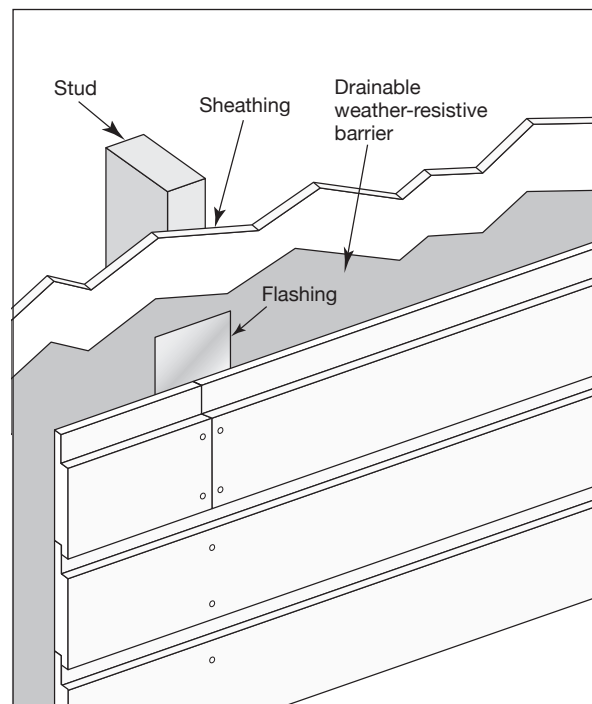

Fig. 21
- Flashing may be used behind butt joints for an additional layer of protection against water infiltration (**Fig. 21**)